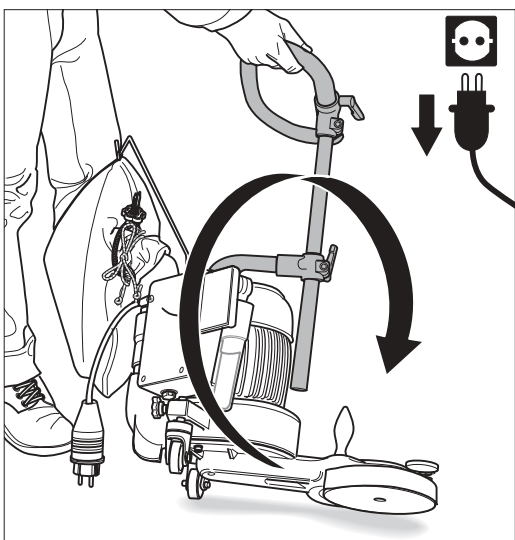

Fig. 61: Tilt the UNICO over to the **left-hand** side and set it down carefully.
- 3 Place the UNICO on its side by grabbing the machine by the handlebar on the right-hand side and then tilt the machine over to the **left-hand** side (Fig. 61) and set it down carefully.